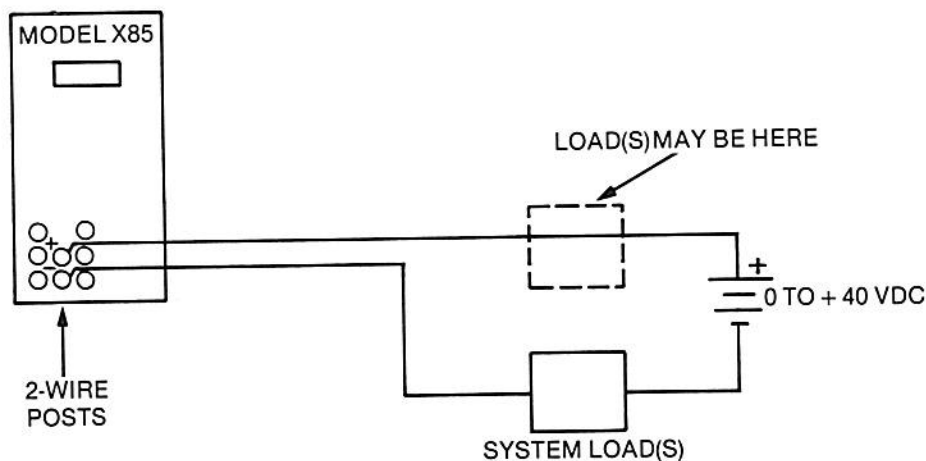

FIGURE 3-6
Terminals are provided for 2-wire transmitter simulation. The calibrator is connected to the system to be calibrated as shown in Figure 3-6:
- 3.4.4 Connect the external current loop to the 2-wire output posts observing polarity as shown in Figure 3-6.